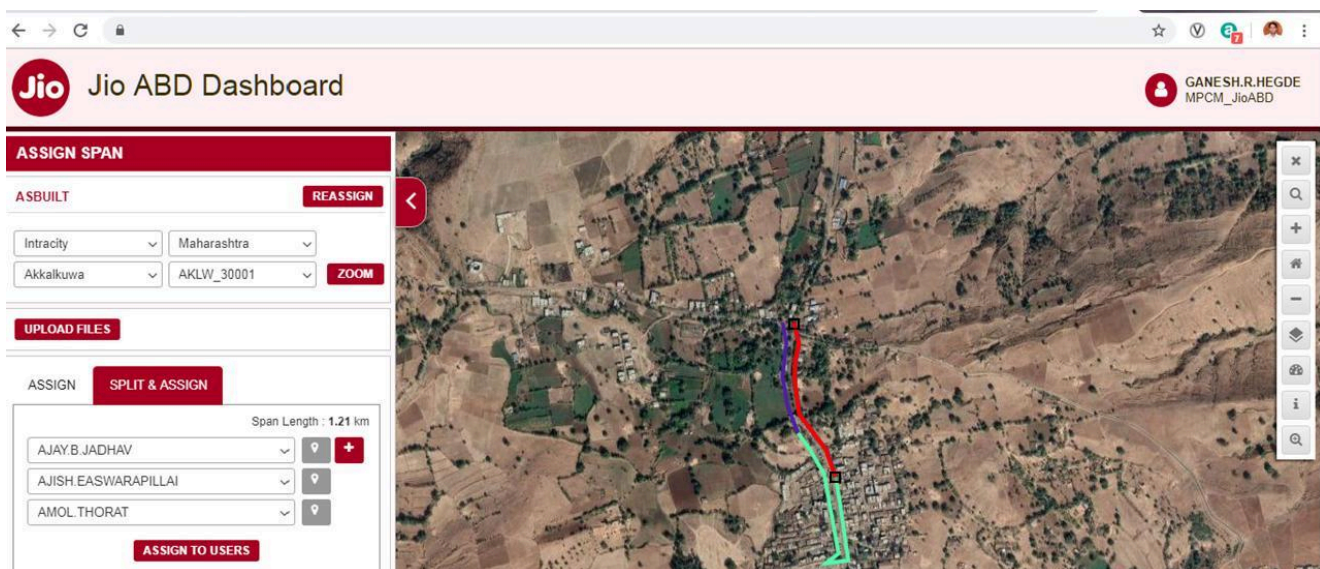

Fig: 2 - MPCM User Dashboard
The Asbuilt workflow begins with the assignment of a planned route (Fig 2) called as a cluster to the Fiber Engineer (FE) by the Maintenance Point Construction Manager (MPCM). These two users belong to the Construction Team. The planned route is depicted as a polyline in the ArcGIS web app and the MPCM user can select the link to be assigned via a combination of filtering options. The MPCM user can also use the ArcGIS
web app option of splitting the cluster polyline and assign it to multiple FE users. In Fig 2, we can see that the polyline